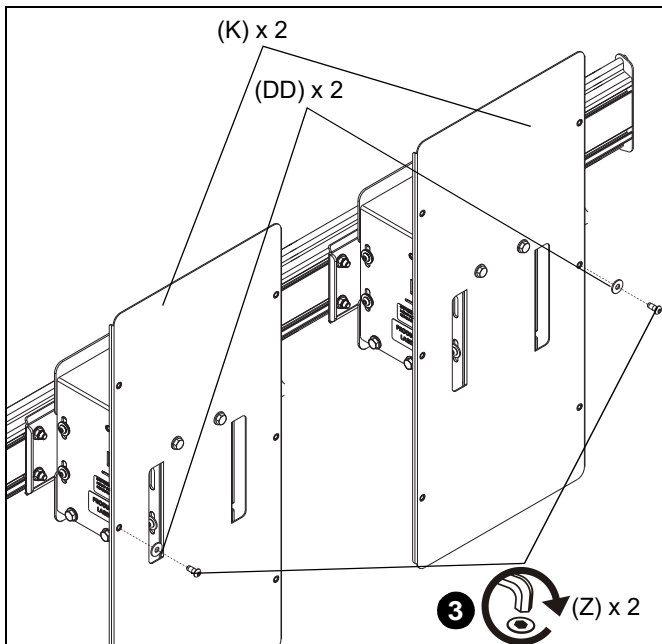

Figure 10
- Loosely install two 1/4-20 x 5/8" button head cap screws (Z) and two 1/4" washers (DD) into two outside center holes on center wind shields (K). (See Figure 10)